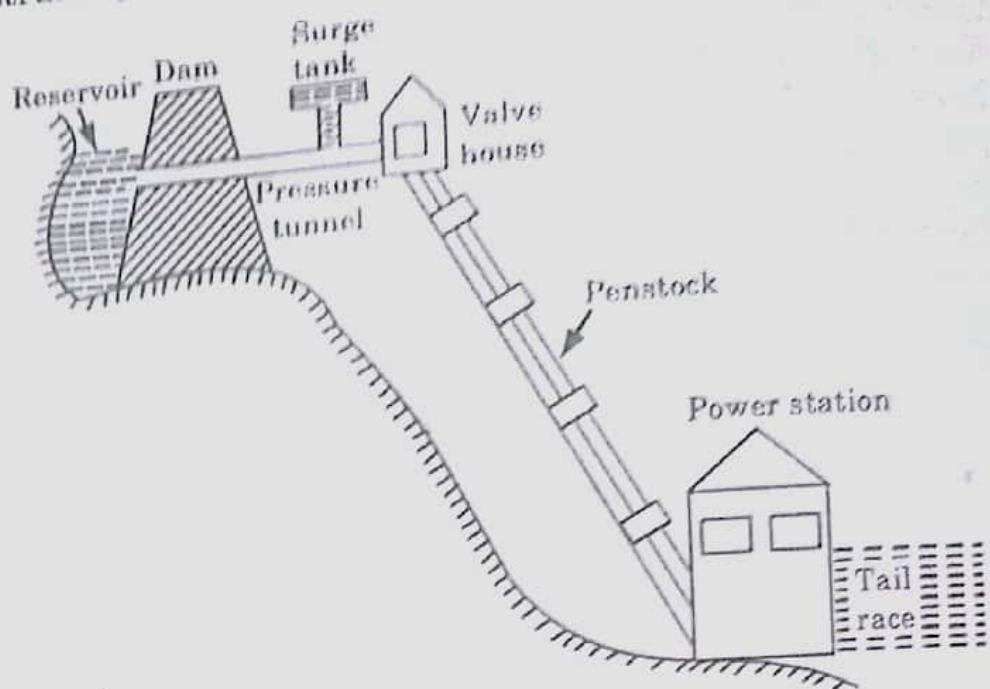

Fig. 4.26.1. General layout of a hydroelectric power plant.
- A. General Layout:** Fig. 4.26.1 shows a general layout of a hydroelectric power plant in which an artificial storage reservoir formed by constructing dam has been shown.